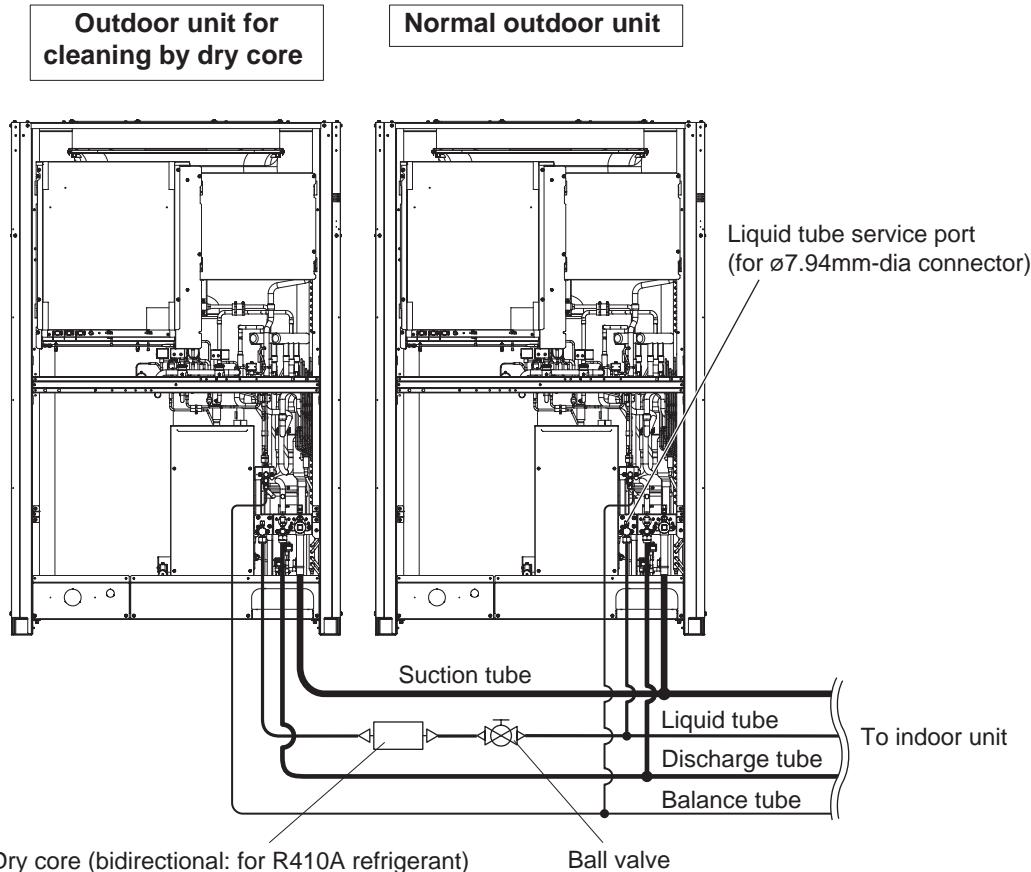

Fig. 16
- (5) As shown in Fig. 16, disconnect the tube that runs from the liquid tube valve to the ball valve on all outdoor units where dry cores will be attached. Then attach the dry cores.
- (6) At all outdoor units where dry cores are attached, pressurize with 3.80 MPa of nitrogen from the liquid tube service port and check for leaks.
- (7) After evacuating all nitrogen gas from the tube, apply vacuum from the liquid tube service port to all outdoor units where dry cores are attached until the pressure is –101 kPa {–755 mmHg, 5 Torr} or less.
- (8) Fully open the liquid tube valve and ball valve on all outdoor units where dry cores are attached.
- (9) Operate all outdoor units for approximately 3 hours (in either Heating or Cooling mode or mixed Cooling and Heating mode).
- (10) Follow the above procedure, and replace all dry cores with new dry cores.
- (11) Operate all outdoor units for approximately 20 minutes (in either Heating or Cooling mode or mixed Cooling and Heating mode).
- (12) Follow the instructions in "2. Discharging Compressor Oil" and drain a small amount of the oil from the oil separators of all outdoor units where dry cores are attached. Check the color phase, odor, and other characteristics.
(13) If the results show that dry core cleaning is still necessary (for example, a color phase of 4.0 or higher)\*, return to Step (11) and repeat until the results are normal (including a color phase of 3.5 or less)\*.
(1) See "4-2-3. Refrigerant recovery procedures (2) : Indoor unit with no ball valve equipped". Perform pump down of the refrigerant from all indoor units and inter-unit tube to the outdoor unit side.
(2) Cut the liquid tube at all outdoor units where dry cores will be attached, then attach the dry cores and ball valves as shown in Fig. 16.
(3) For the next steps, see the steps (6) – (17) in "(A) If a ball valve is installed on the outdoor unit" on the previous page.